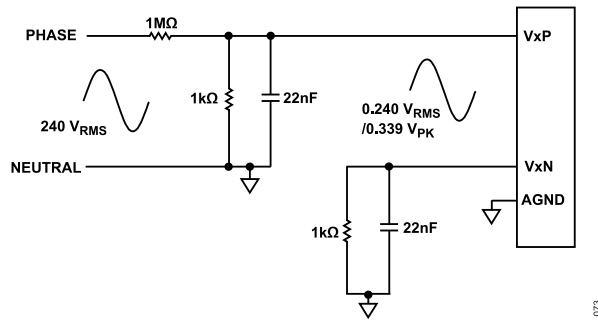
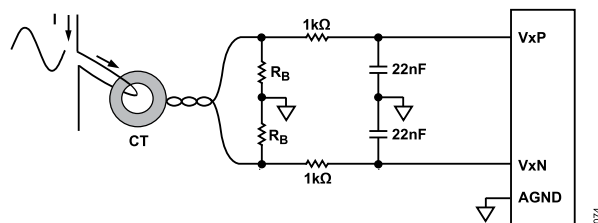
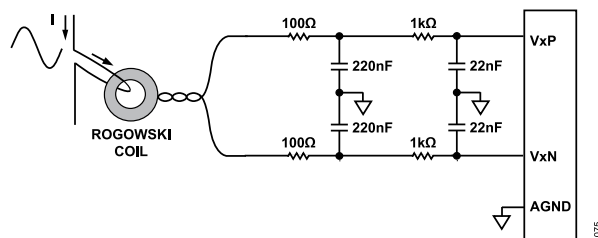

Figure 64. Phase Voltage Sensed Through Resistor Divider, 1x Gain, Pseudodifferential Input
Figure 65. Current Transformer Current Sensor Interface Circuit
Figure 66. Rogowski Coil Current Sensor Interface Circuit
The same cutoff frequency is used for both current and voltage sensors to avoid introducing phase errors between the signals. Figure 64, Figure 65, and Figure 66 show interfaces to different sensor types all with a similar cutoff frequency. Filter caps must be NP0 or C0G variety for low temperature coefficient.
Figure 64 shows an interface circuit to measure the mains voltage that produces a pseudodifferential input signal to the ADC channel. A current transformer (CT) with center tapped burden resistor, as shown in Figure 65 generates differential, antiphase signals at the ADC inputs. Figure 66 shows the recommended circuit to connect to Rogowski coil current sensors.